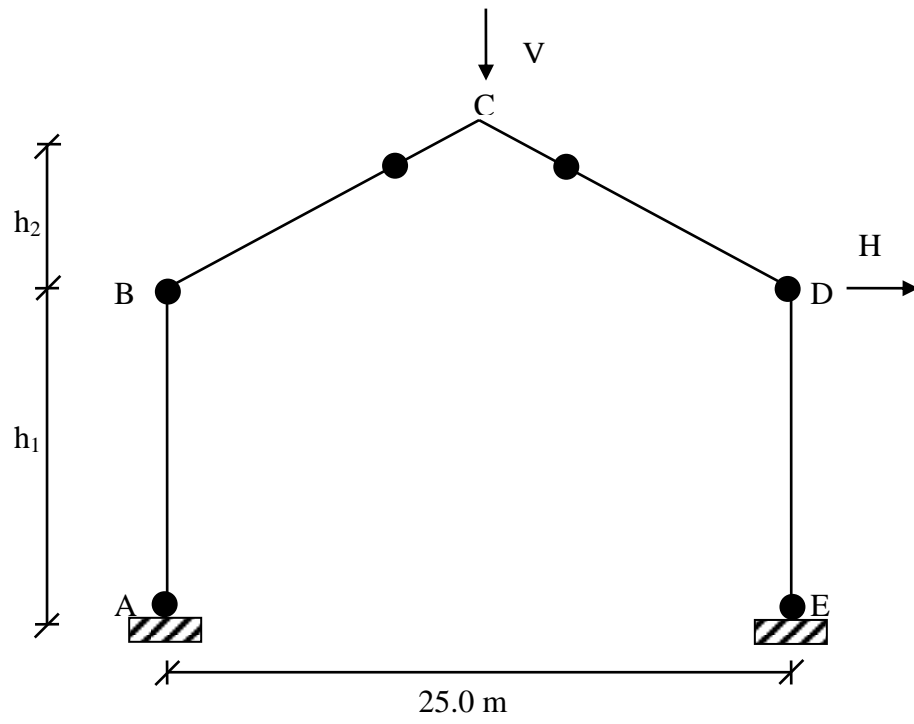

Figure 4.0
5. Figure 4.0 shows a single bay fixed base portal frame which has been constructed with steel grade S275, using the plastic theory of design. Details of the frames and loading are given below :-
By assuming modes of failure as shown in the Figure 4.0,